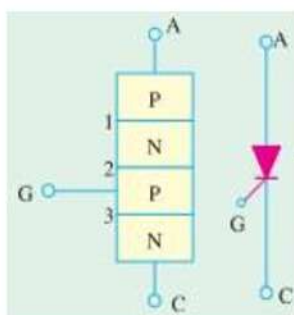

Fig 1.6
It is a tri-junction PNPN device having three external connections: anode (A), cathode (C) and gate (G) as shown in Fig 1.6